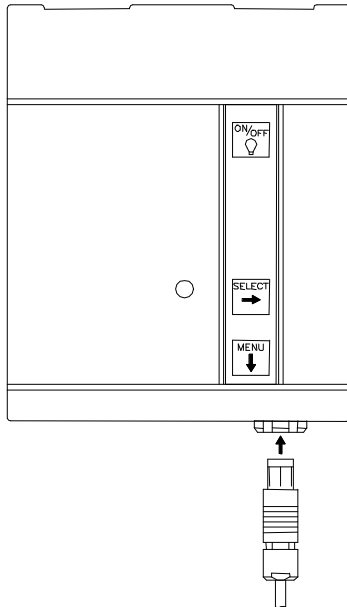

Figure 6: Insert Charge Jack
- Plug the battery charger into the wall and then plug the charger connector in to the **I/O and charging port** on the front of the **TARGET** instrument. See figures 6 and 7.